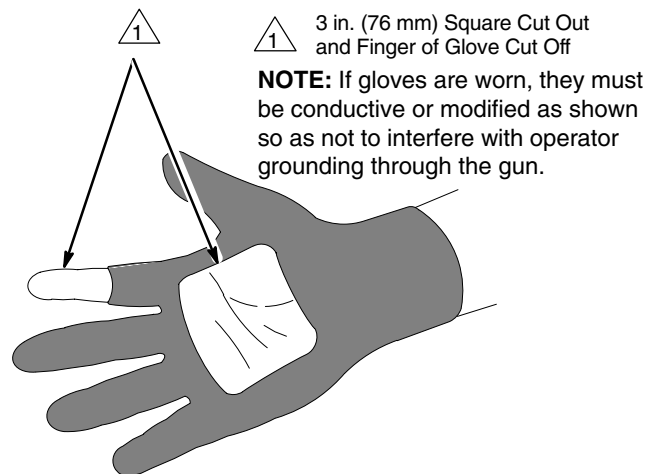

Fig. 2
8. *All persons entering the spray area*: shoes must have conductive soles, such as leather, or personal grounding straps must be worn. Rubber or plastic soles are not conductive. The operator must not wear gloves that insulate the hand from the spray gun. The gloves must be conductive or modified as shown in Fig. 2.